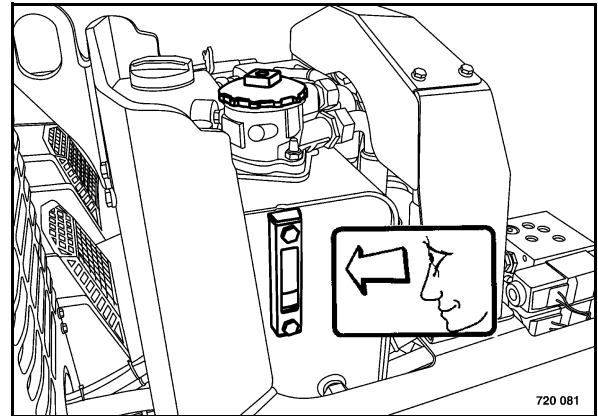

Fig. 90
- Check the hydraulic oil level in the inspection glass (Fig. 90) .